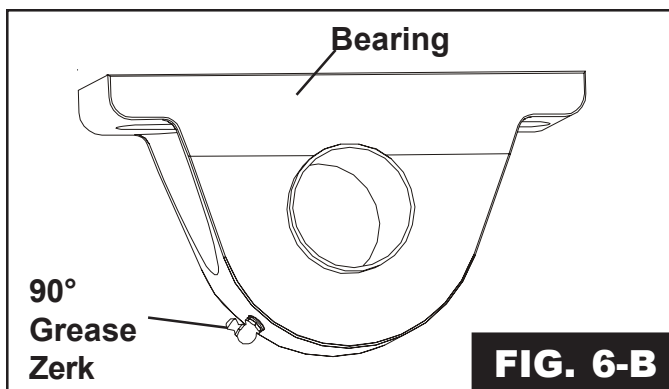

FIG. 6-B
- Slide the axle assembly between the legs of the tractor drive stand as shown in Fig 6-C.